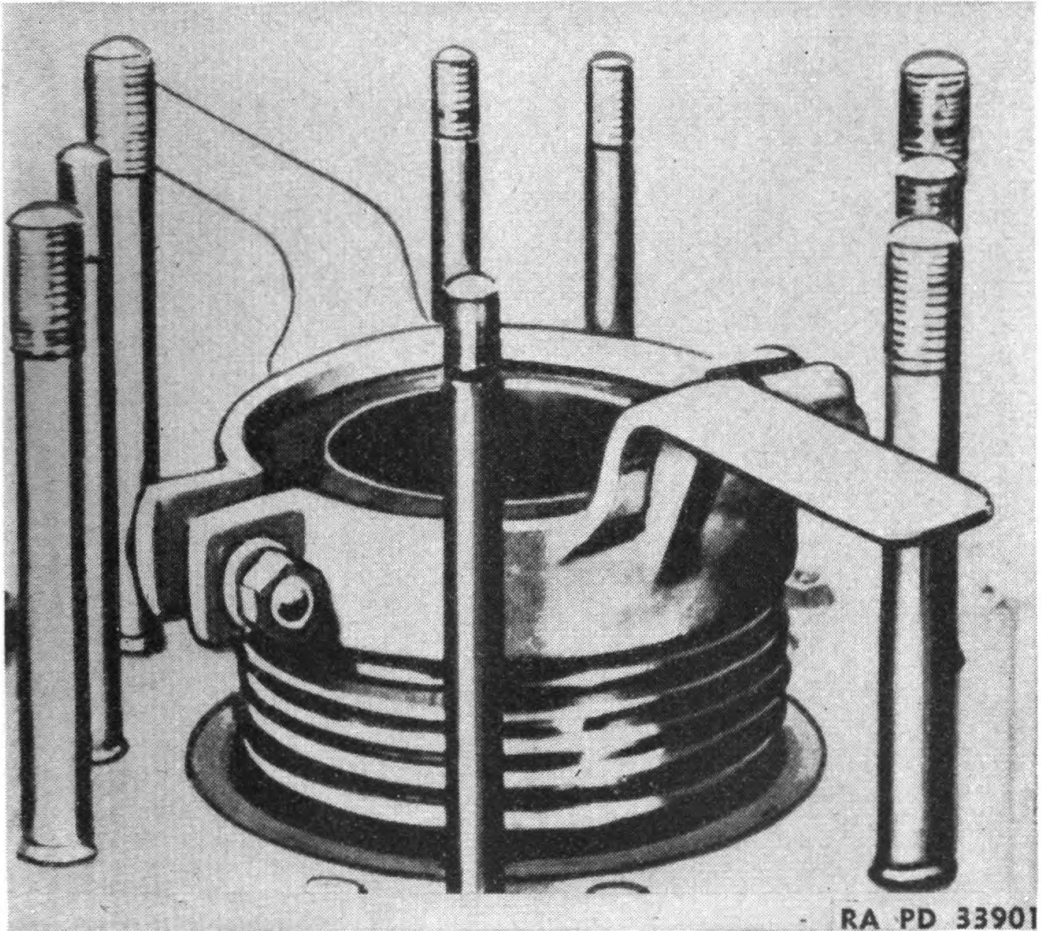

FIGURE 28.—Removing piston.
a. Removing pistons.—(1) Drain lubricating oil and remove cylinder head (fig. 28) and cylinder block inspection plates or oil pan.
(2) The piston and connecting rod assembly should be removed from the top of the cylinder block.
(3) Clean away any carbon accumulation at the top of the liner.
(4) In liners with a considerable ridge at the top, there may be some interference with the removal of the pistons when the rings are raised against the ridge. By placing a block of wood between the connecting rod and the crankshaft, holding the piston rings firmly against the liner ridge with the crankshaft, and bumping on top the piston head with a hammer handle, this work can be more easily accomplished.
b. Cleaning pistons.—(1) Pistons which are not excessively worn or badly scored should be cleaned and used again, providing the ring